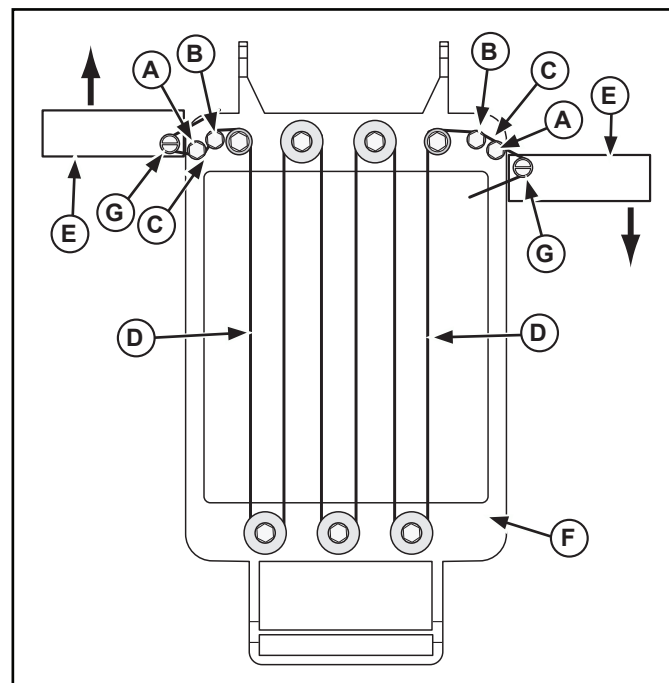

Figure 2. Replacing the Cutting Wire (3/4" Cut Model Shown).
1. Place the cutting bow (F) assembly in vise or clamp to a secure surface.
2. Loosen the cap screws (A and B) approximately one (1) full turn. See Figure 2.
3. Remove and discard old the cutting wire (D).
5. Leave approximately a 4" (10.2 cm) tail of new cutting wire (D) route to the (C) side and snug the screw (B).
6. Wearing leather or other abrasion resistant gloves route wires as shown in Figure 2. Pulling snugly during the routing process. (Use the same pattern for the 3/8" cut models).
7. Place new cutting wire (D) on the side (C) and secure the loose end of the cutting wire using screw (B).
8. Place the tension tool (E) on the edge of the cutting bow (F) as shown.
9. Wrap the cutting wire (D) around the screw (G) and tighten.
10. Slightly loosen screw (B) and slowly rotate the tension tool (E) in the direction shown. Tighten the screw (B).
11. Wrap cutting wire (D) 3/4 of the way around screw (A)
12. Tighten screw (G) and cut or break cutting wire (D) by wiggling it.
13. On the other edge of the cutting bow place the tension tool (E) on the